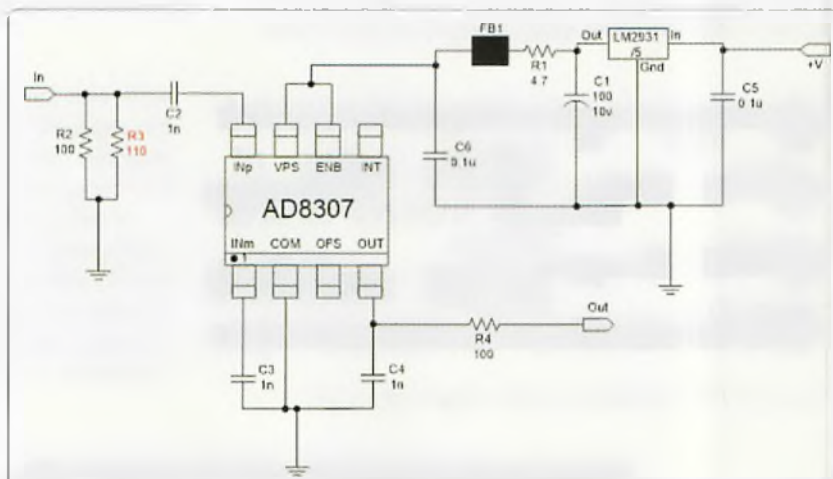

Figure 29: Modification to the Generic Interface AD8307 input.
Finally there is the same item as discussed above about the input matching of the AD8307 detectors. In the original version of the interface (1), I used two 100 Ω resistors in parallel as the 50 Ω match for the interface internal AD8307 detector. For completeness I changed one of the resistors for a 110 Ω version as shown in red in Figure 29.